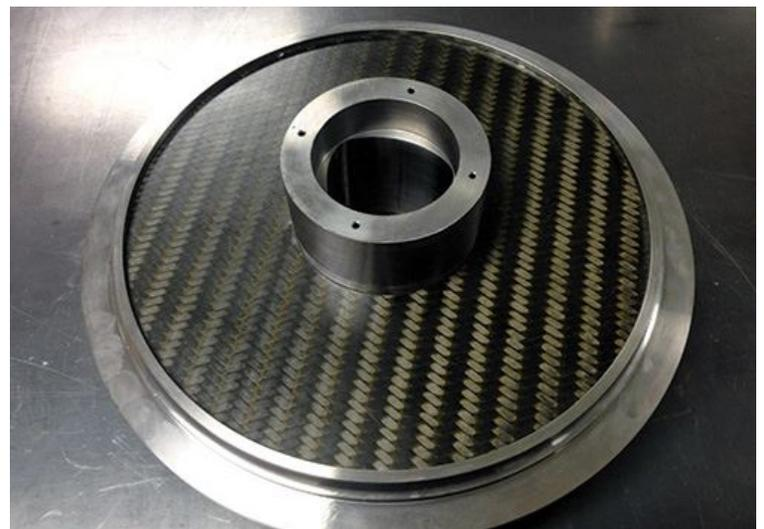

FIG. 5: Next Step: Larger "Bull" Gears
visco-elastic material. During the project’s second phase, the team will fabricate and test scaled-up steel/epoxy composite hybrid “bull” gears (see Fig. 5), and bismaleimide (BMI) and polyimide (PI) matrices will be investigated. “Some gear applications require continued operation for a specific time period if loss of lubrication should occur,” Roberts reports, so the gear laminate might need a high-temperature-capable resin “to survive the thermal transient after loss of lubrication, when we go into actual field trials.”